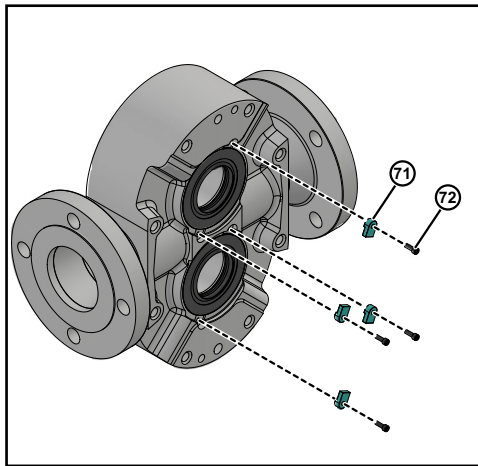

Figure 122 - Install Screws and Retainer-tab
6. Install all the retainer-tab (71) and retainer bolts (72) onto the pump body, as shown in Figure 122. This is *applicable for model 006-130*.